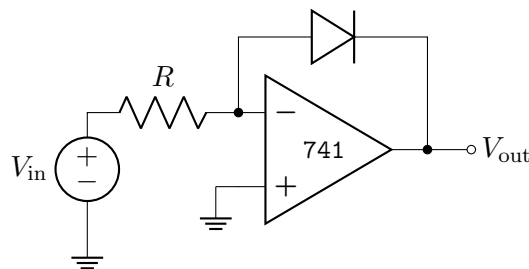

Figure 7: Logarithmic amplifier
- Construct the logarithmic amplifier shown in Fig. 7 using  $R = 500 \Omega$  and the germanium diode (mounted on the circuit board with two other diodes). The output voltage of a logarithmic amplifier is